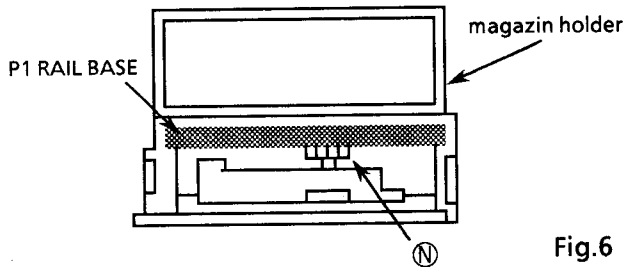

Fig.6
8. Removing the P1 RAIL BASE Ass'y (Fig.6,8)
- 1) Rotate the gear (V) clockwise a little.
- 3) Remove the screw (W).
9. Removing the P1 RAIL BASE (Fig.6,7,8)